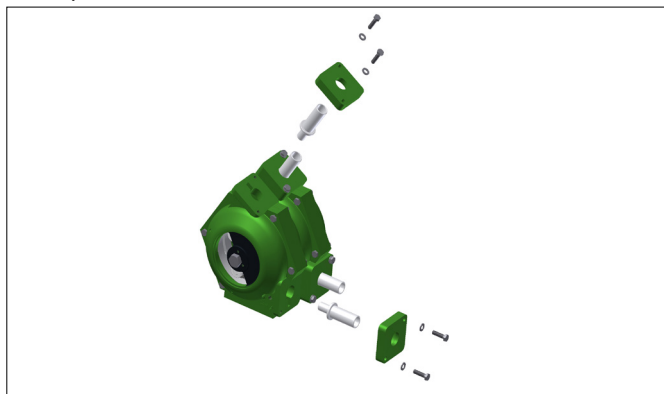

Figure 6 Installing the pump hose
3. Put the snap closure ring onto the end of the hose and put the connecting socket into the end of the hose at suction and discharge side. For the second pump head please repeat steps 1 and 2, see Figures 6 and 7.